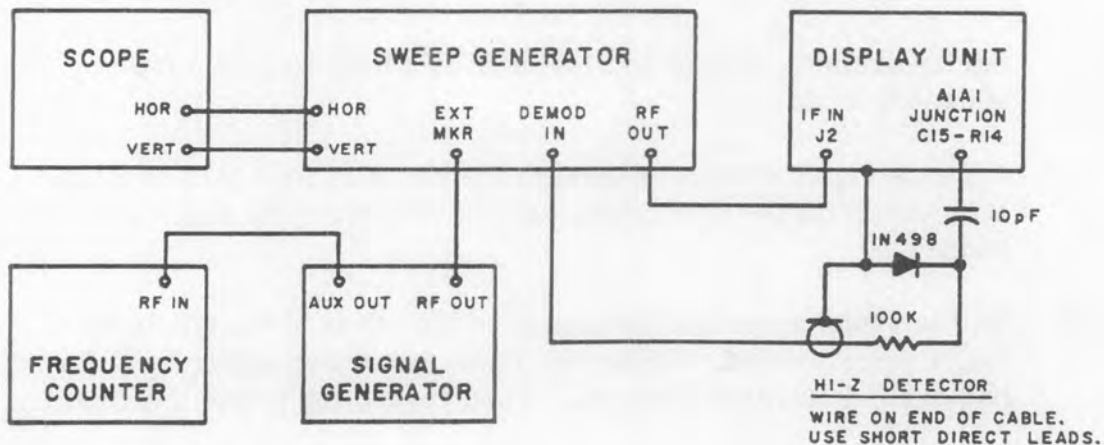

Figure 4-7. Test Setup, 21.4 MHz IF Amplifier Sweep Alignment
- (1) Connect the equipment as shown in Figure 4-7. Solder the hi-Z detector directly to the junction of C15 and R14 on the input amplifier boards.